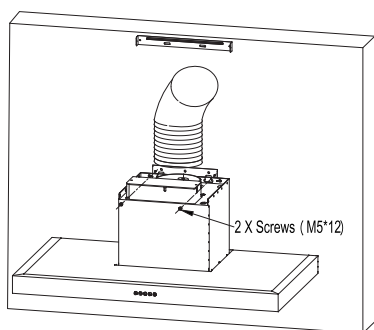

Fig.6
- Fit the exhaust pipe on the main body, lock screws (M5\*12) to prevent the range hood from accidentally sliding off the installation plate. See Fig.6.